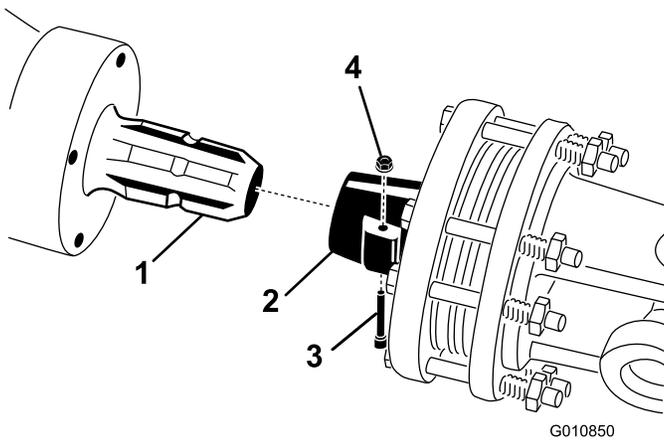

Figure 20
1. Remove the pin and nut from the PTO shaft (Figure 20).
2. Connect the clutch end of the PTO shaft to the aerator gearbox input shaft with pin and nut previously removed (Figure 20). The pin can only be inserted one way.